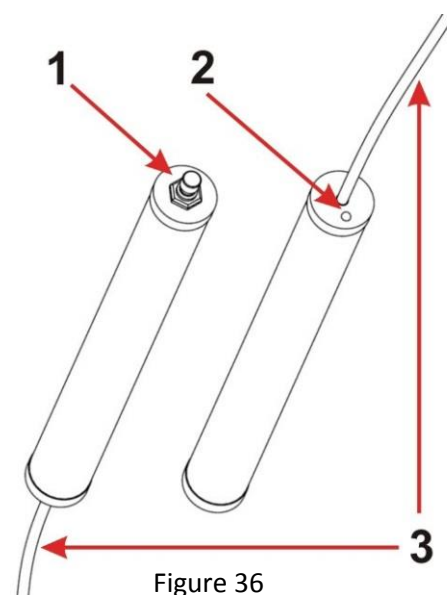

Figure 36
- If after connecting the equipment as shown in Figure 36 there is no informative signal, the polarity has to be changed (switch the clamps positions).
The induction converter consists of a magnetic antenna and an amplifier, with a radio-waves transparent casing. Outer appearance of the unit is shown in the Figure 36. The two-step switch is located on the forward side of the converter case (1 on Figure 36). The indicator led (2 on Figure 36) and connection cable (3 on Figure 36) are located on the back side of the unit.
Press **F4** to select the sensors installation menu. Using the **UP** or **DOWN** keys, select the **✓** symbol in the “Magnetic field sensor” line and press the **ENT** key. Using the two-step switch (1 on Figure 36) turn on the preferable working mode. Ensure that that the unit is working properly using the indicator led (2 on figure 36). If the indicator glows, the unit is working in the magnetometer mode; if not, it is working in the second mode which can be used to compensate the disturbances in the electric net (50Hz).